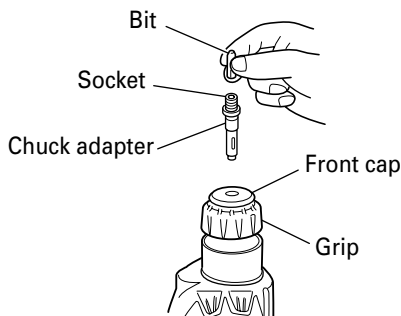

Fig. 21
5. When driving wood screws (Fig. 21)